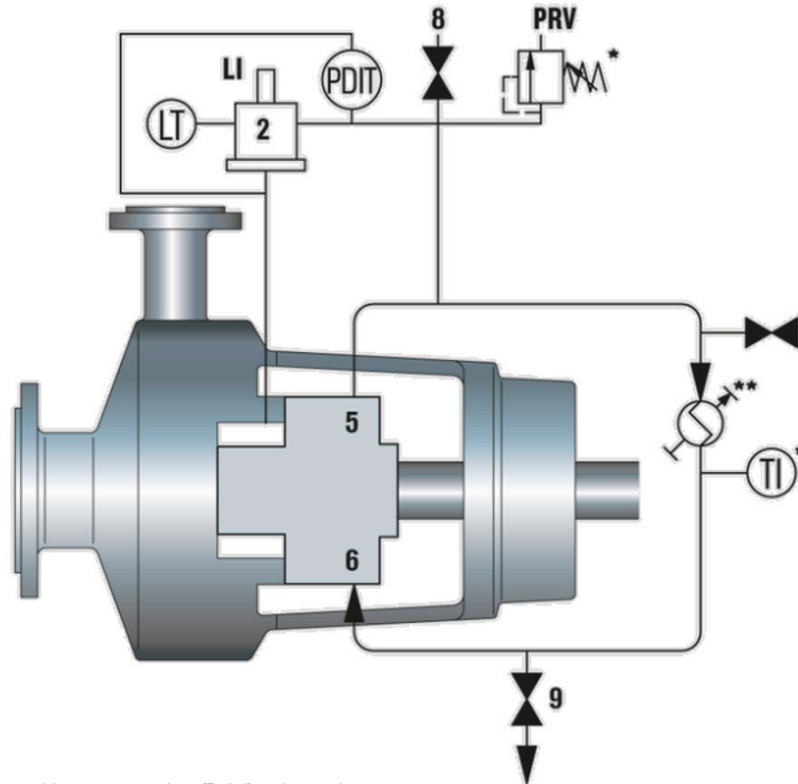

Figure 2 – Plan 53C piping and instrumentation (P & I) schematic
In a Piping Plan 53C, there is an external barrier fluid system pressurized by a piston accumulator supplying clean liquid to the barrier fluid seal chamber. The barrier liquid is maintained at a pressure greater than seal chamber pressure. The piping and instrumentation diagram (P&ID) is shown in figure 2. The Piston Accumulator is item 2. Items with key (\*) are optional (if specified).